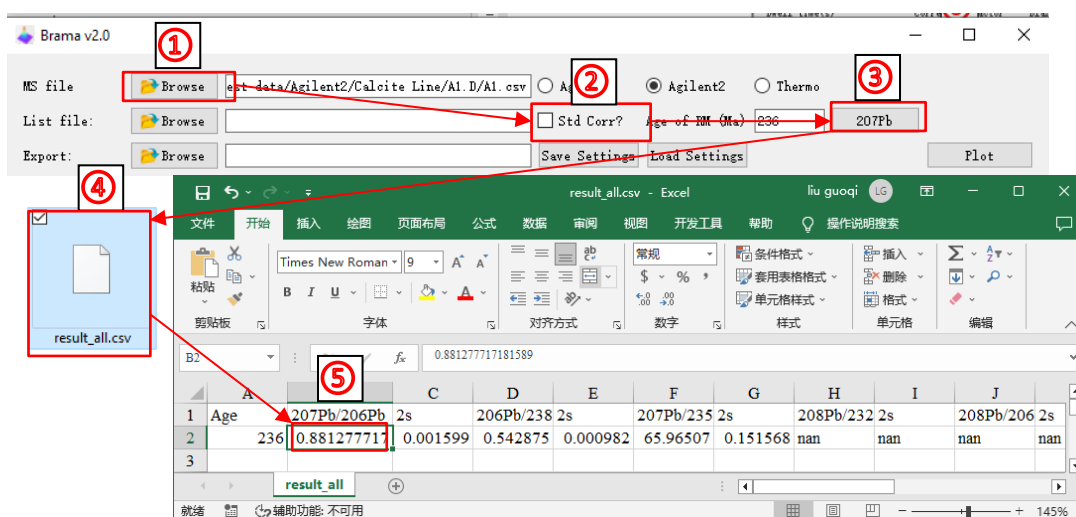

Fig. 1-11 Calculation steps of standard bias fraction factor for $^{207}\text{Pb}/^{206}\text{Pb}$
$^{207}\text{Pb}/^{206}\text{Pb}$ fraction factor: As Fig.1-11 shown, ①Import the “A1.scv” (NIST 614) file according to step 1.3.2. ②Uncheck the **Std Corr?** Checkbox and then click the ③ **^{207}Pb** button. ④Open the “result_all.csv” file in current working directory of Brama, $^{207}\text{Pb}/^{206}\text{Pb}$ bias factors equals ⑤measured ratio (0.8813) divided by true ratio ($^{207}\text{Pb}/^{206}\text{Pb}$ NIST 614 = 0.8710).